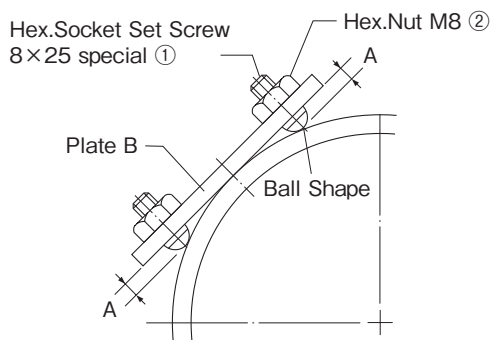

Fig. 17
The tool can be used on the workpieces at the minimum diameter of 300mm by adjusting dimension A of both Hex. Socket Set Screws (8×25 special) ① in either direction. (Fig. 17)